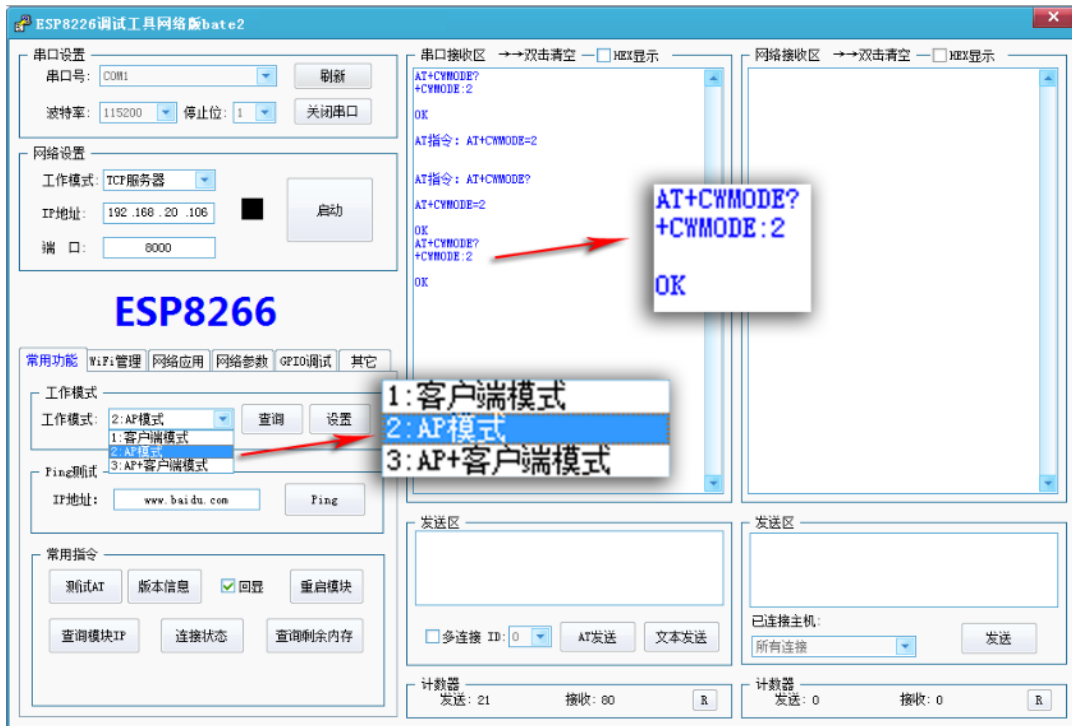

Figure 4-5 Test Software- AP Mode Setting
2. In "common functions" options , please select "AP Mode" in "working mode" and click the "Settings Button". when serial receiving area shows "OK" , it means the setting is completed. Please refer to figure 4-5.